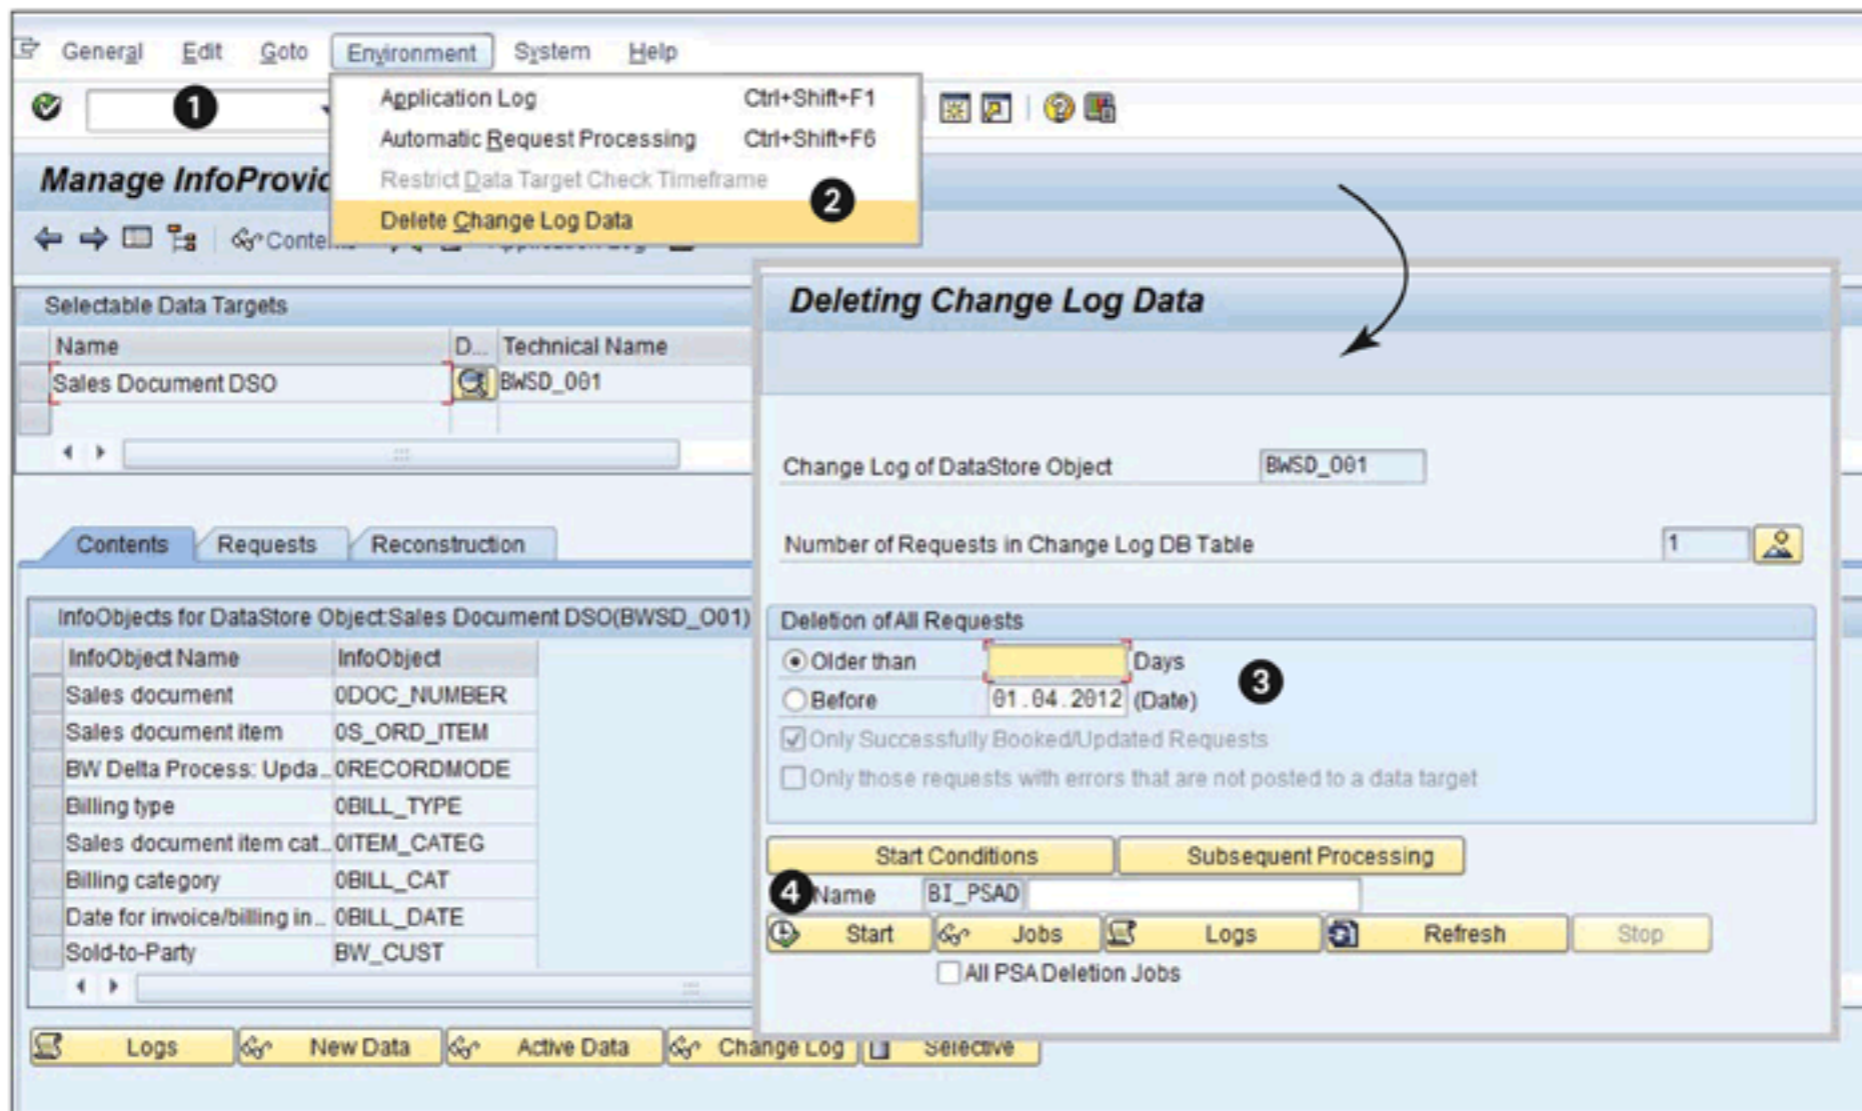

Figure 14.10 Delete Change Log Data
As time goes by, data in the change log table builds up, negatively impacting activation processes in the system. To delete change log data, follow this menu path: ENVIRONMENT • DELETE CHANGE LOG DATA (❶ and ❷ of Figure 14.10).